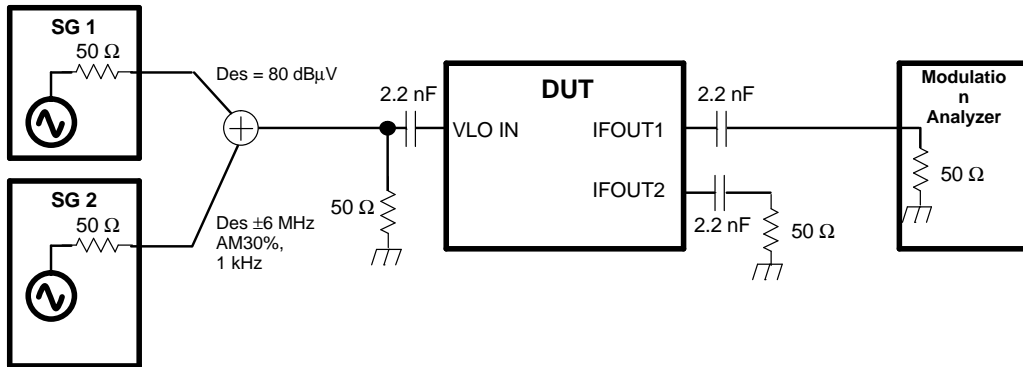

Figure 16. VHF-L 1% Cross-Modulation Distortion Measurement Circuit
(3) DES:  $V_{IN} = 80\text{ dB}\mu\text{V}$ , UNDES:  $f_{des} \pm 6\text{ MHz}$ , AM 1 kHz, 30%, DES/CM = S/I = 46 dB (see Figure 16).